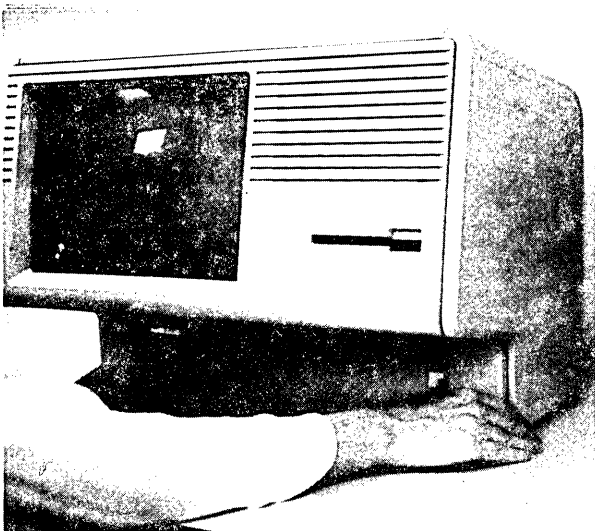

FIGURE 1
1. Turn off the Lisa by pressing the on-off button (see Figure 1). Wait until the light inside the on-off button is out.